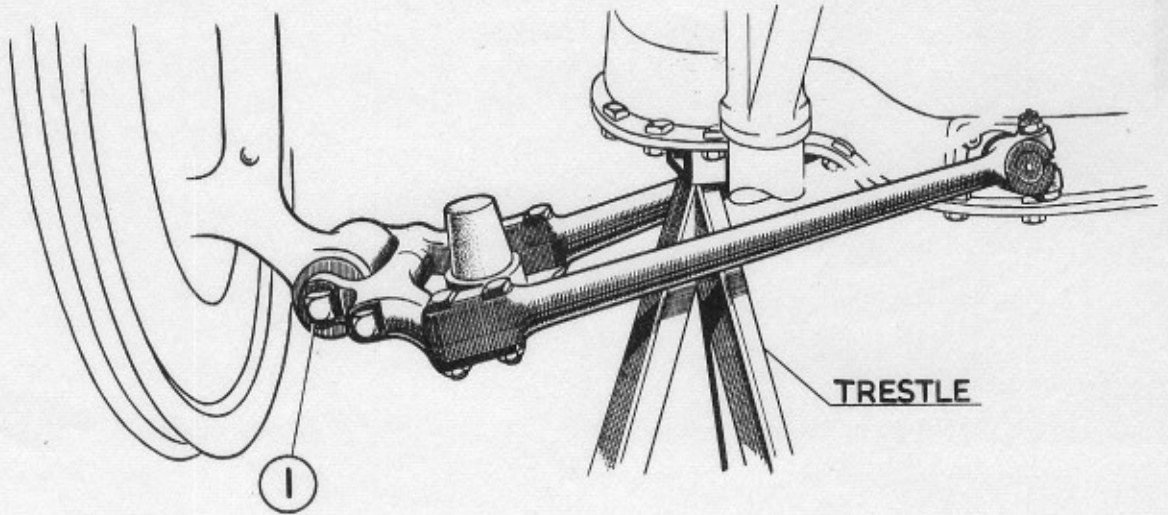

Fig.1.
It has been decided to fit a larger diameter bolt to the lower bearing of the two steering yokes in place of the existing bolt, 1 fig.1, on all Phantom III cars. The modification consists of increasing the diameter of the bolt holes at the outer end of the bottom triangle levers and fitting new parts to the lower end of the yokes which form the bearing and fully described in this Service Instruction leaflet.
Place a suitable trestle under and near each end of the front "pan" as shown in Fig.1, and lower the car on to the trestles in order to allow the buffers of the right and left-hand upper triangle levers to rest on their stops, which will relieve the load from the bolt, 1 Fig.1. Remove the front wheels.
- (v) Remove the bolt, 1 Fig.1, from the yoke lower bearing. Swing the hub upwards and allow it to rest on a block of wood, taking care not to damage the oil pipe at the top of the yoke.